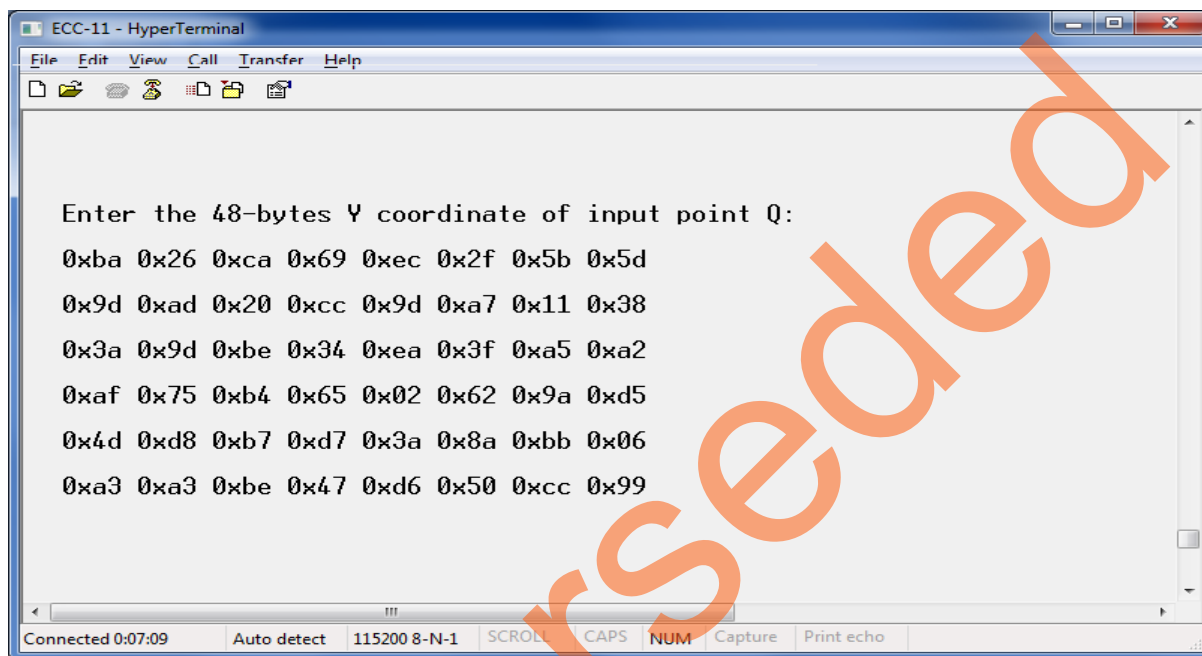

Figure 12 • Point Addition Input
2. Enter the Y Coordinate of P (Py), X and Y coordinates of Q (Qx, Qy) as shown in Figure 10 on page 13, Figure 11 on page 13, and Figure 12 on page 14.
Figure 12 shows the Y Coordinate of Q.